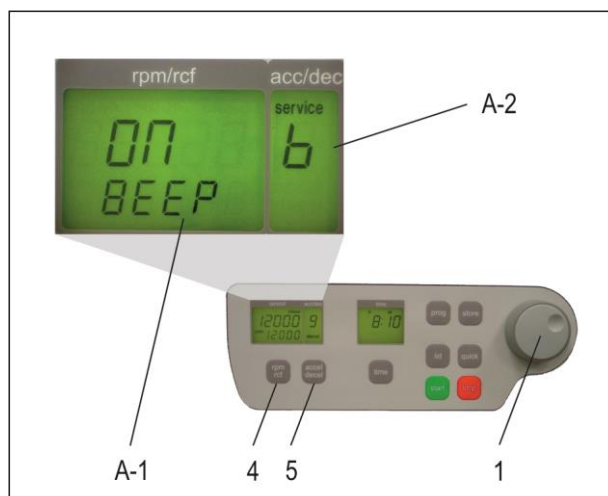

Figure10
Proceed as illustrated, under point 1.8.1, to enter this program mode, press the key, "accel/decel" (5). In the display; "accel/decel" (A-2) flashes the word, "service". Select the letter, "b" with the adjustable knob (1). As a result, appearing in the display, "rpm/rcf" (A-1), the word "ON/BEEP". By pressing the key, "rpm/rcf" (4), the keyboard sound (On) or (Off) can be turned on, with the adjustable knob (1), (see Figure10).